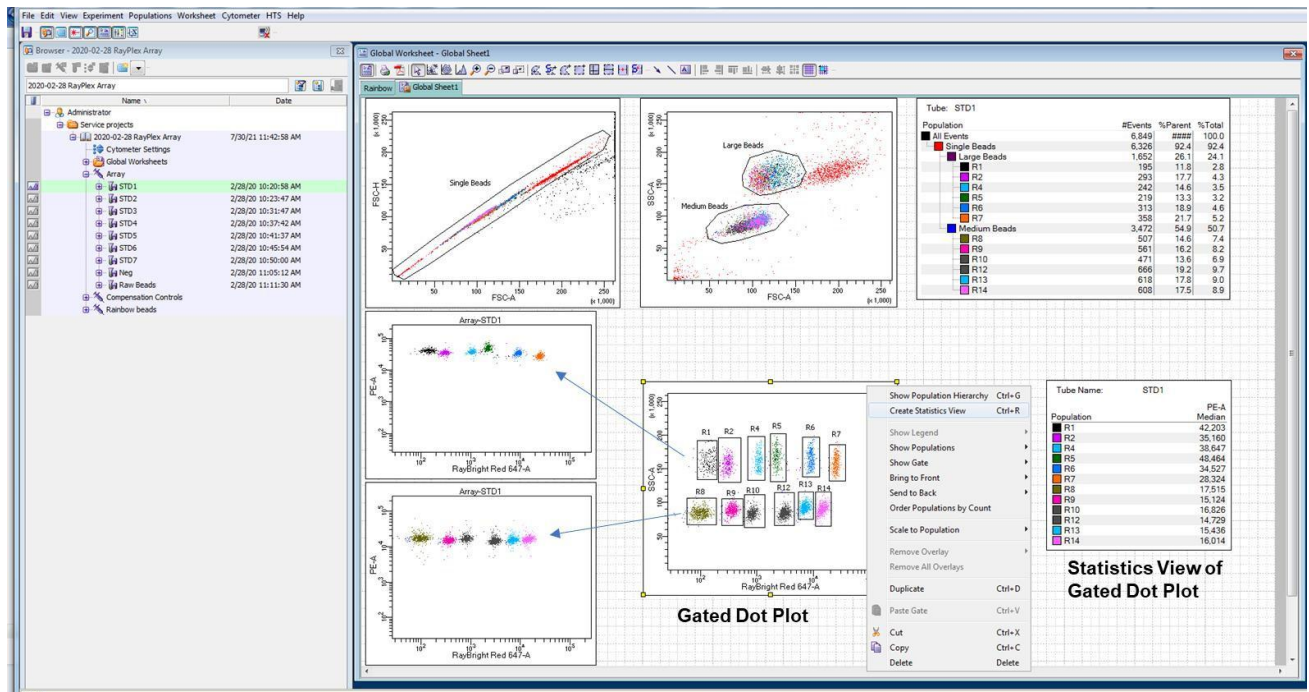
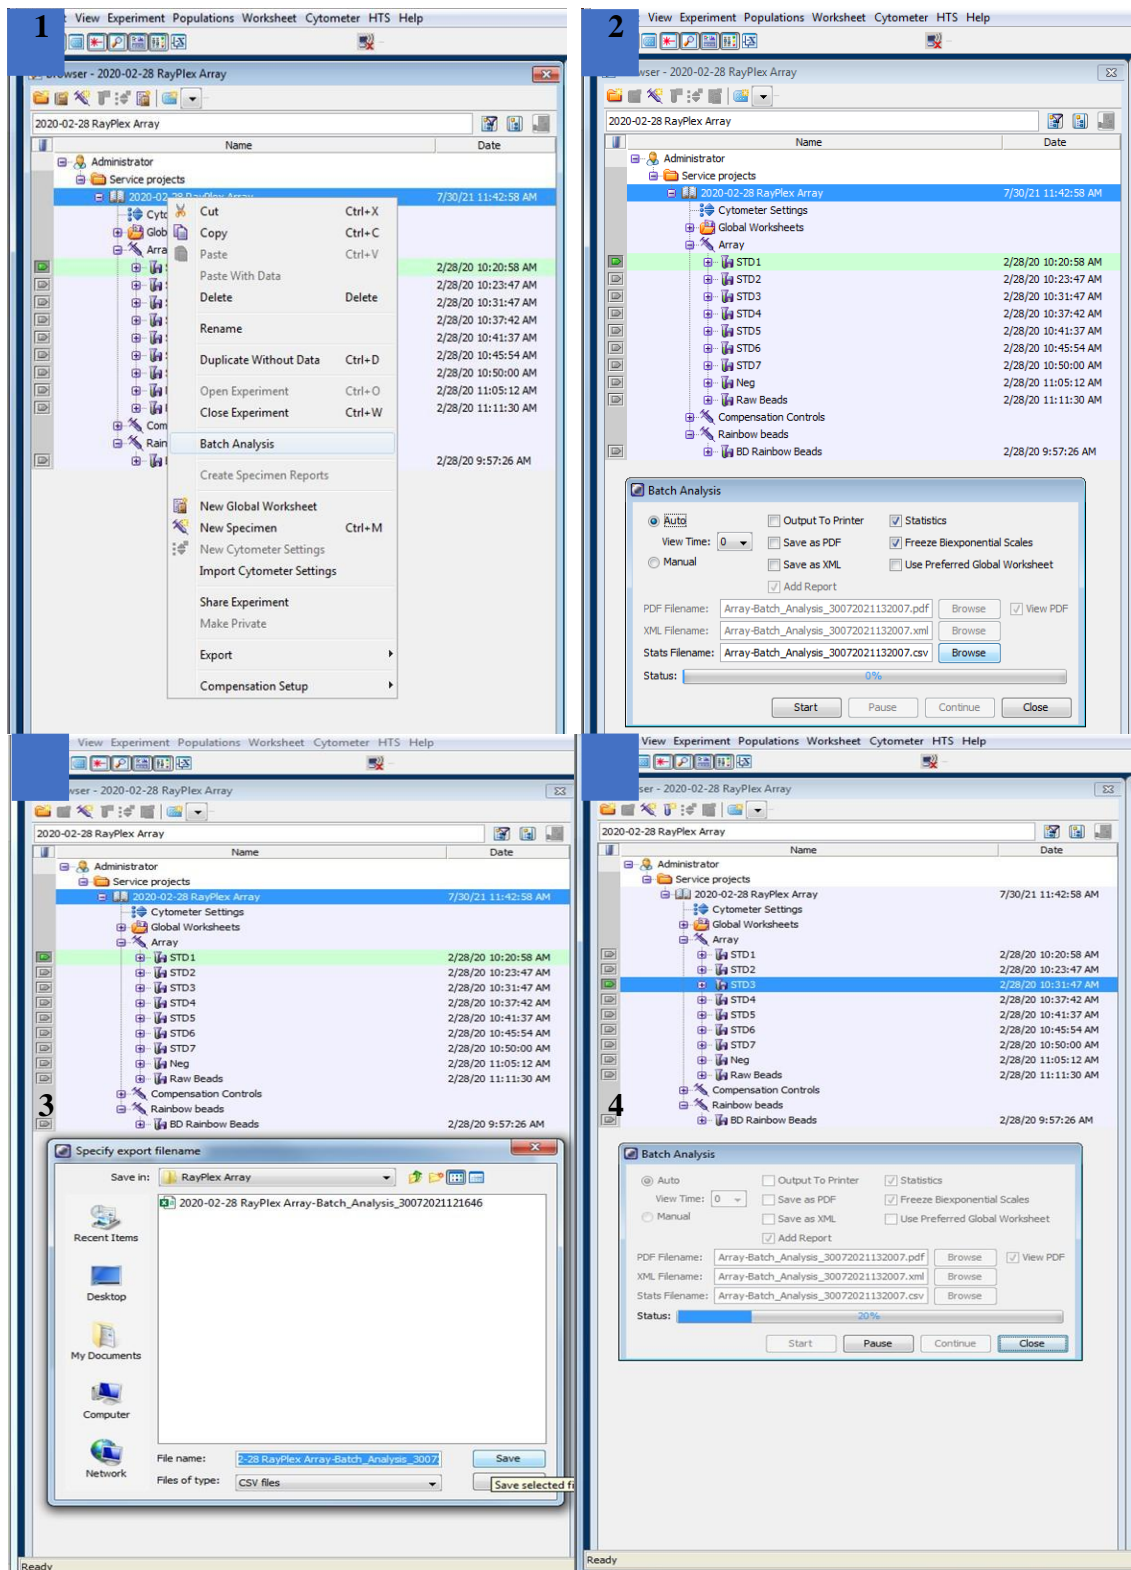

Figure 4. Screenshot of Creating Statistics View from the dot plot of gated beads populations.
Figure 5. Screen shot showing how to begin the batch analysis through manual tube mode.
Batch analysis allows exporting PE MFI data of each bead population directly from FACS Diva. Before batch analysis, it's important to create statistics view from the dot plot of gated beads populations and choose "PE-A Median" to be shown (Figure 4). Batch analysis can be done in either manual tube mode or HTS mode. Both methods for batch analysis are described below (Figure 5 and 6).
1. Create a dot plot by SSC-A (linear) and APC-A (log) to show all beads populations and make a gate for each population (see figure 4, "Gated Dot Plot", R1~R14). Right click on the dot plot to "Create Statistics View", then edit the statistics view so that "PE-A Median" of gated beads populations are shown (figure 4, "Statistics View of Gated Plot").